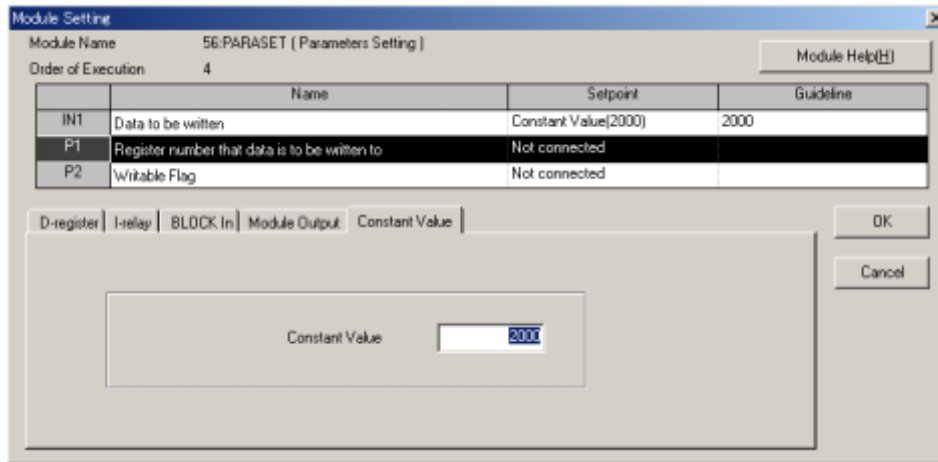

Figure 12.6.5 [Module Setting] Dialog Box
- (3) The <IN1> module input is waiting for the data setting.
- (4) Click the <Constant Value> index.
- (5) Type “2000” in the text box and press the <Enter> key. (Figure 12.6.5)
- (6) The <P1> module parameter is waiting for the data setting.
- (7) Click the <Constant Value> index.
- (8) Type “301” in the text box and press the <Enter> key.